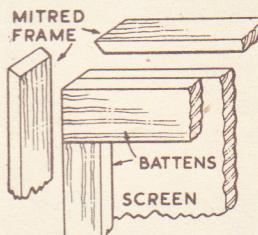

Fig. 2—Detail of construction
Round the edge of this is put a flat strip composed of the frame (E) and (F). These $\frac{1}{8}$ in. wide pieces are glued with the back edge flush with the back of the frame, so there is about $\frac{1}{8}$ in. projection at the front. The corner ends are mitred carefully with plane or file, to make a good joint. A detail of one of the corners is given in Fig. 2.